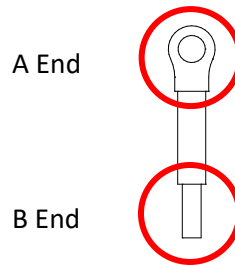

Figure 3-19 Grounding Wire
- You must ground the option cards as listed below when wiring. The ground terminal is included in the option card package, as shown in Figure 3-19.